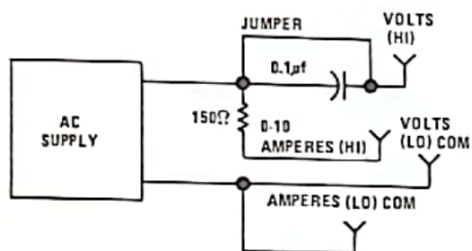
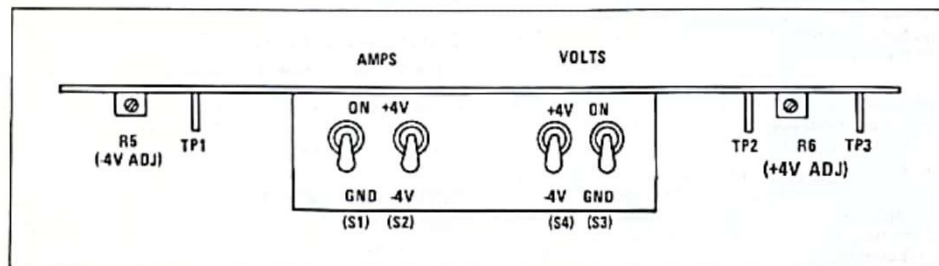

Figure 5. AC supply connections for functional tests
Figure 6. DC calibrator module, location of adjustments
(a) An ac supply for the voltage and current inputs capable of supplying 600 volts, and 0 to 0.5 ampere, over a frequency range of 40 to 400 Hz, and with its phase variable from 0 to 45 degrees, minimum. Refer to Figure 5.
(6) Select the 600V and the 50A ranges, and the VA function. The FUNCTION display should read 3.0000 ± 0.0004 E04.
(7) Change the VOLTS inputs to -4 volts. The FUNCTION display should again read 3.0000 ± 0.0004 E04.
(8) Continuing with the same input voltages, select the WATTS function. The display should read -3.0000 ± 0.0004 E04.
(9) Press the WATTHOURS switch.
(10) Press TIME RESET and start measuring for one minute starting at the moment of release. After precisely one minute, press the TIME STOP switch. The FUNCTION display should read -5.0000 ± 0.0004 E02.
(11) Press DISPLAY HOLD. Switch both inputs on the calibration module to ground. Release WATTHOURS. The display should remain unchanged, but all three decimal points should be flashing.
(12) Release DISPLAY HOLD. All displays should read zero.
(13) Press LAMP TEST. All display numerals should read 8, and the negative and positive signs and two decimal points should appear in the FUNCTION display.
(14) Remove the calibrator module and reinstall the Series 900 Transformer Electronics Card.
(15) Connect the ac supply shown in Figure 5 to the voltage and current inputs of the device under test.
(16) Select the 15-volt and the 0.1-ampere ranges.
(17) Adjust the ac supply so that 15 volts and 0.1 ampere are displayed.
(18) Select the WATTS function. The display should read approximately 1.5000 E00.
- Remove the Series 900 Transformer Electronics Card and install the Model HB-95260 DC Calibration Module in the slot thereby vacated. Set both channels of the calibration module to ON and to -4Vdc. See Figure 6 for location of all adjustments.
- Repeat Steps (2) and (3) until the required accuracy of ± 0.05 mV is obtained with positive and negative inputs.
(19) Select the FREQ function and vary the supply frequency. The FUNCTION display should track the supply frequency.
(20) Select the DEG function. The FUNCTION display should read approximately 000.00.
(21) Select the P.F. function. The display should read 1.0000.
(22) Select the VAR function. The FUNCTION display should read 000.00.
(23) Remove the jumper from across the 1.0μF capacitor shown in Figure 5, and adjust the ac source to about 60 Hz.
(24) Select the DEG function. The FUNCTION display should read approximately 60.00.
(25) Select the P.F. function. The display should read about 0.5000.
(26) Using the two calibrators described in Item (7b) of the list of test equipment required, and an RFL Model 809 Phase Generator/Meter, set the frequency of the assembly at 60 Hz and adjust the current input to the device under test so that it lags the voltage by 45 degrees, as indicated by the Model 809.
(27) Note and record the reading of the FUNCTION display.
(28) Select the VAR function. The FUNCTION display should read approximately the same as in the foregoing.
(29) Observe the AMPERES display. Depress the BURDEN COMP button. The indication of the AMPERES display should decrease by approximately 68 counts with full-scale voltage input applied.
(30) Release BURDEN COMP.
(31) Select VARHOURS.
(32) Press and release TIME RESET.